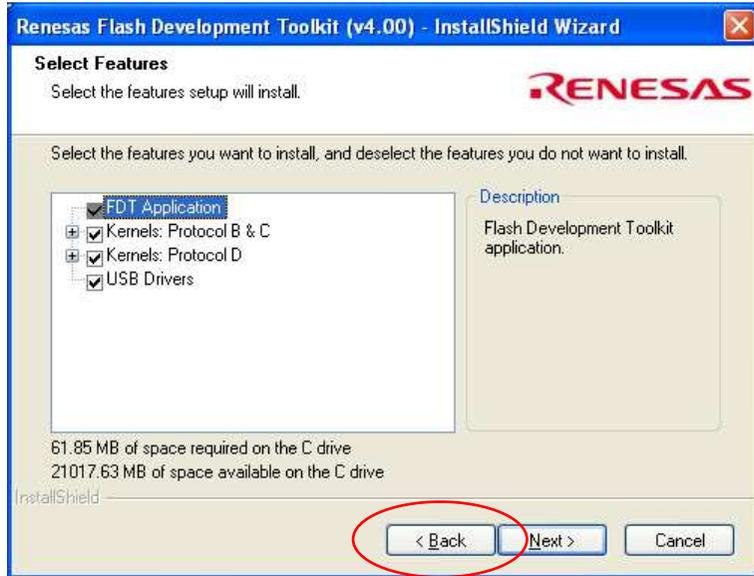

Figure 59:
7. Select the features you wish to install then select Next. (Figure 59).